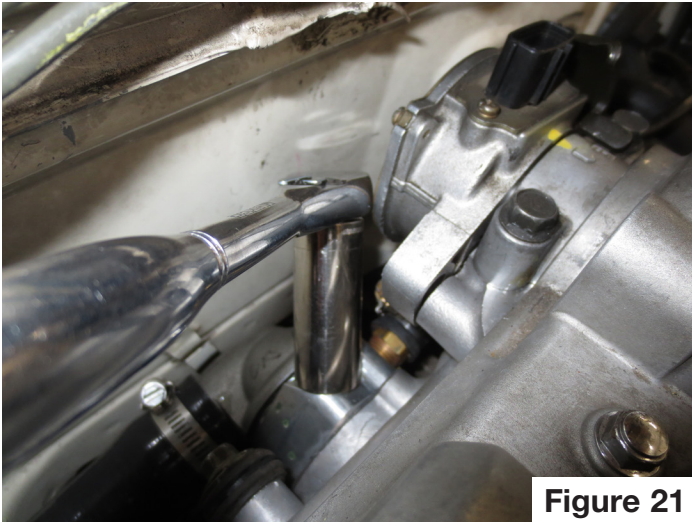

Figure 21
- 21) Attach the spill-free funnel if you have one. Fill the cooling system slowly while watching for coolant at the coolant temp sensor. Continue filling until all air has bled out of the coolant temp sensor hole, then torque the sensor to 20 ft-lbs with a 19mm deep socket. **Figure 21.** Continue filling radiator until full and check for leaks. Top off coolant overflow tank. If you have a cooling system pressure tester, pressure test now to ensure there are no leaks.